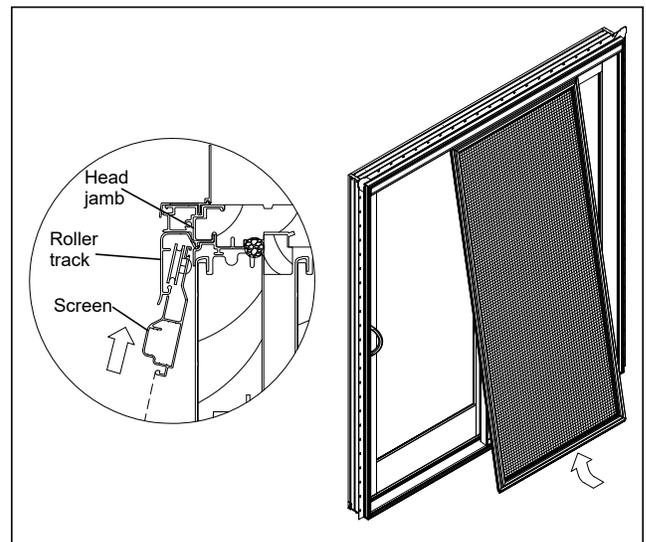

Figure 7
2. Once the sill end of the screen panel is completely released from the sill track, pivot the bottom of the screen out and push the panel toward the head jamb. This will release the screen panel rollers from the head jamb screen track. Remove the panel from the door. See figure 7.